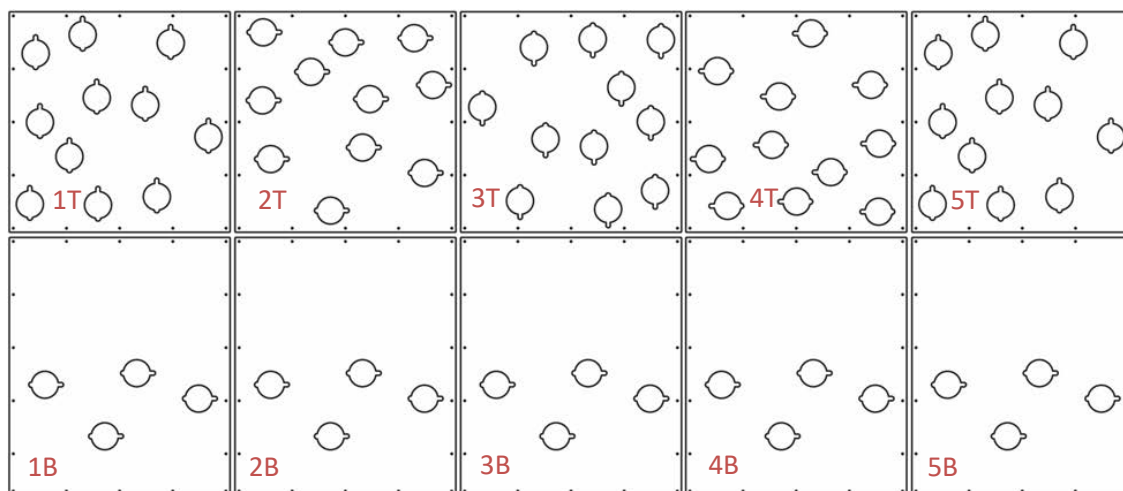

Figure 3.4.3: Moulding rotations
5. Position section 1T on top of section 1B. Ensure mouldings are level and square to one another and that the rotation of the section reflects that in **Figure 3.4.3**. Mark the 4 mounting points within the free pod holes. Use appropriate fixings to mount section 1T to the wall. Ensure that any loose cables are not trapped behind the wall during mounting and exit to the top of the moulding.
6. Position section 2T on top of 2B, ensuring that mouldings are level and square to one another and that the rotation of the section reflects that in **Figure 3.4.3**. Mark the 3 mounting points within the free pod holes. Use appropriate fixings to mount the section to the wall. Ensure that any loose cables are not trapped behind the wall during mounting.